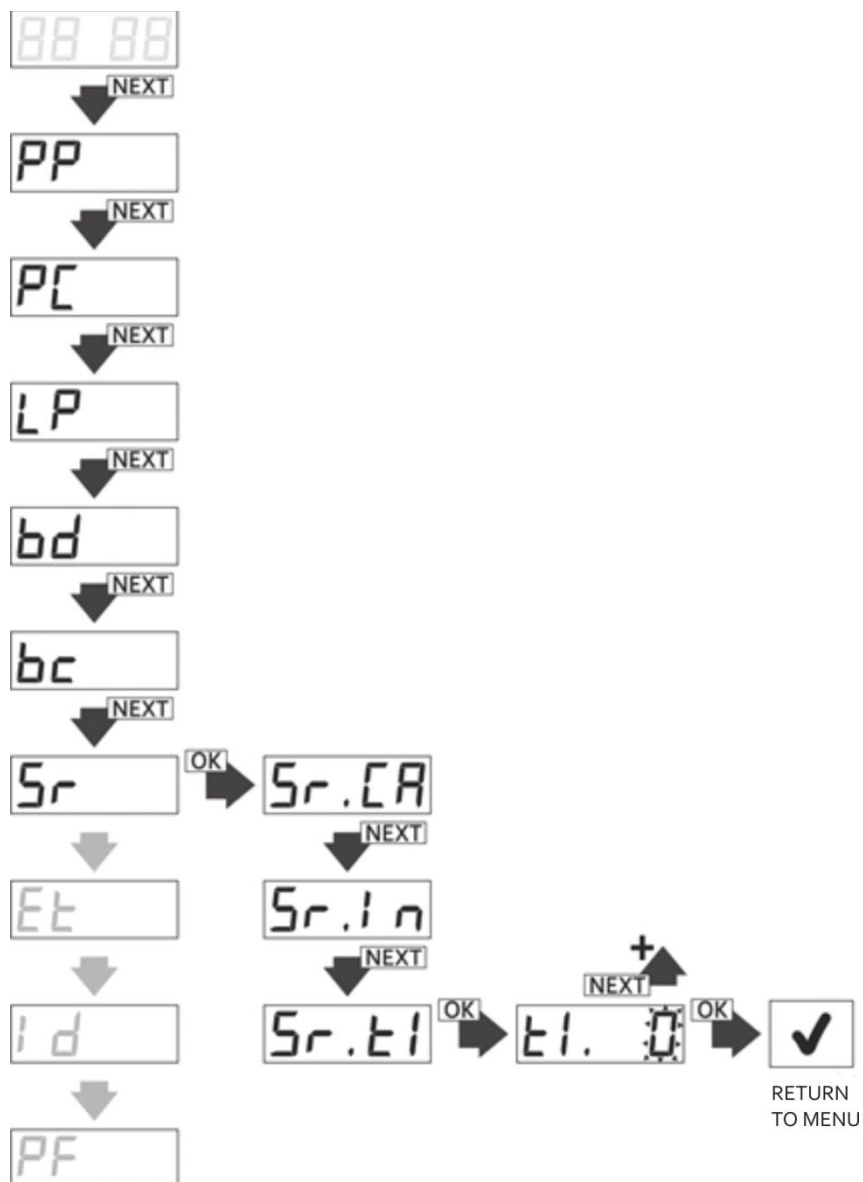

Fig. 24 Programming of breach time of manual control output, Sr.ti function.
- with NEXT button go to Sr.tl function; with OK/ESC button enter the function – the display shows 'tl.0' (Fig.24);